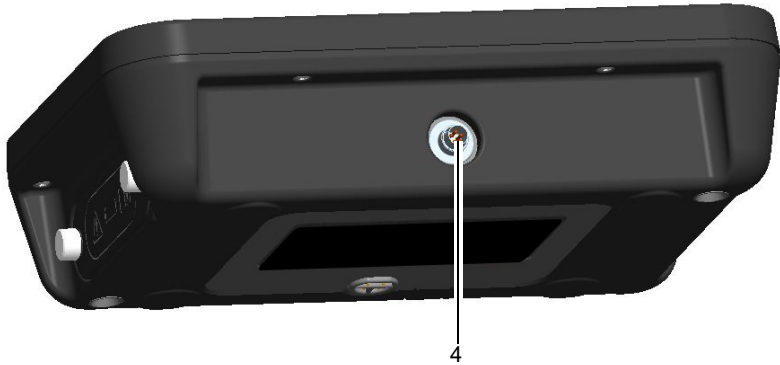

Figure 3: ADTS Touch Umbilical Cable Connector
- By connecting the ADTS Touch connector (4) (see Figure 3) to the ADTS using the umbilical cable.